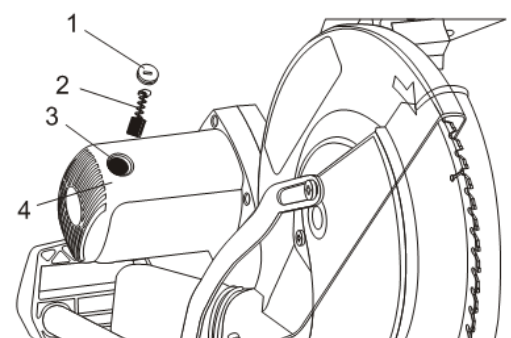

Fig. 36
1. Use a 1/4" slot screwdriver (not included) and remove one brush cap (1) (Fig. 36). Turn the brush cap counter clockwise to remove it from the motor housing.
2. Pull the spring & brush assembly (2) from the brush holder (3) in the motor housing (4).